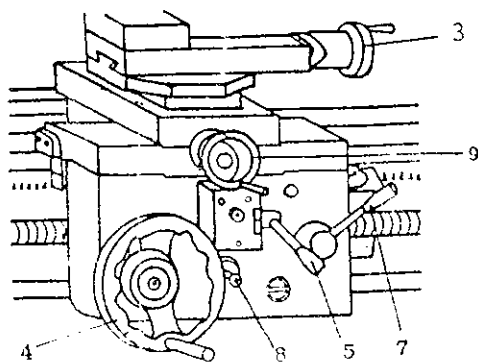

FIG. 11
- (4). PUSH DOWN THE AUTO-FEEDING SELECTOR (5 IN FIG. 11), THE MACHINE WILL HAVE A CROSS AUTOMATICALLY FEEDING. PULL THE LEVER (5 IN FIG. 11) UP, THE MACHINE WILL HAVE A LONGITUDINAL AUTOMATICALLY FEEDING.
IF YOU WANT TO FEED BY HAND, JUST PUT ALL THE LEVER BACK TO THE ORIGINAL POSITION, THE MACHINE IS NOW UNDER HAND WHEEL CONTROL. TURN THE HAND WHEEL (4 IN FIG. 11) AND MACHINE CAN MAKE THE LONGITUDINAL FEEDING.
- (1). MOVE SADDLE BY HANDLE WHEEL (9 IN FIG. 11).
- (2). CROSS MOVEMENT OF THE TOOL POST IS ACCOMPLISHED BY TURNING THE HANDLE (3 IN FIG. 11). THE TOOL POST WILL MOVE TOWARDS THE CENTER WHEN TURNING THE HANDLE CLOCKWISE.
- (3). BOTH THE CROSS-SLIDE AND COMPOUND SLIDE CAN BE LOCKED.
HERE IS A FEED OVERLOAD CLUTCH IN THE APRON WHICH IS ADJUSTED BY TURNING THE ADJUSTMENT SCREW (8 IN FIG. 11) CLOCKWISE IF THE SADDLE OR CROSS-SLIDE STOPS WHILE TAKING A CUT. CARE MUST BE TAKEN NOT TO OVER-TIGHTEN THIS SAFETY DEVICE AS YOU WILL NOT HAVE AN OVERLOAD PROTECTION.